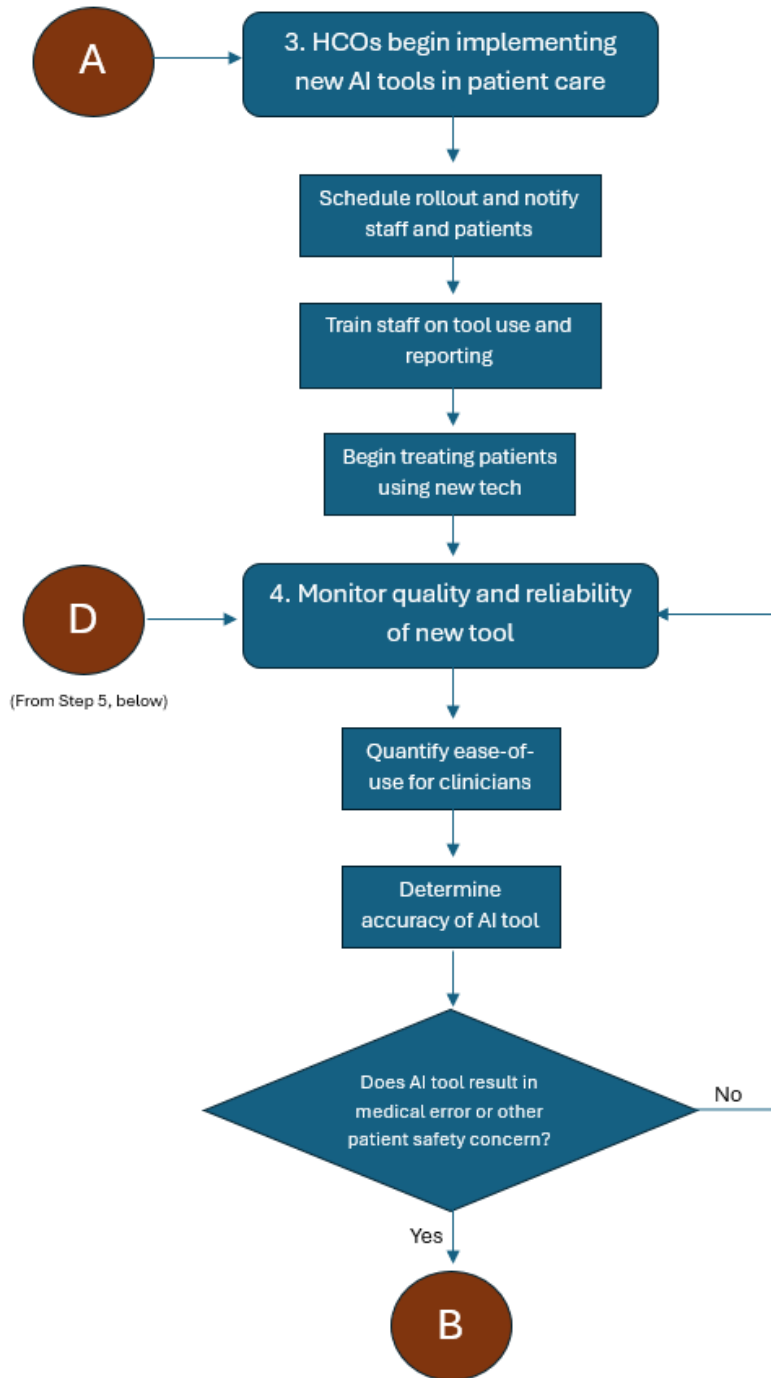

Figure A3
5. Healthcare organizations and providers must report errors and other patient safety concerns when they occur. The governance program's IRB must review these error reports and determine a course of action that upholds patient safety standards and reliable healthcare delivery. See Figure A3(5) for a detailed overview of the process and Table A5 for further analysis.